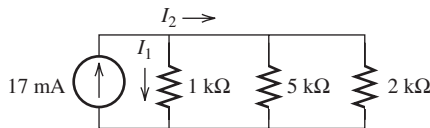

FIGURE P3.18 Circuit for Problem 3.18.
3.18 (A) Find I_1 and I_2 in Figure P3.18.
3.22 (A)* Using the current division formulas in Problem 3.21 to recompute the currents through 1 kΩ, 5 kΩ, and 2 kΩ in Figure P3.18.